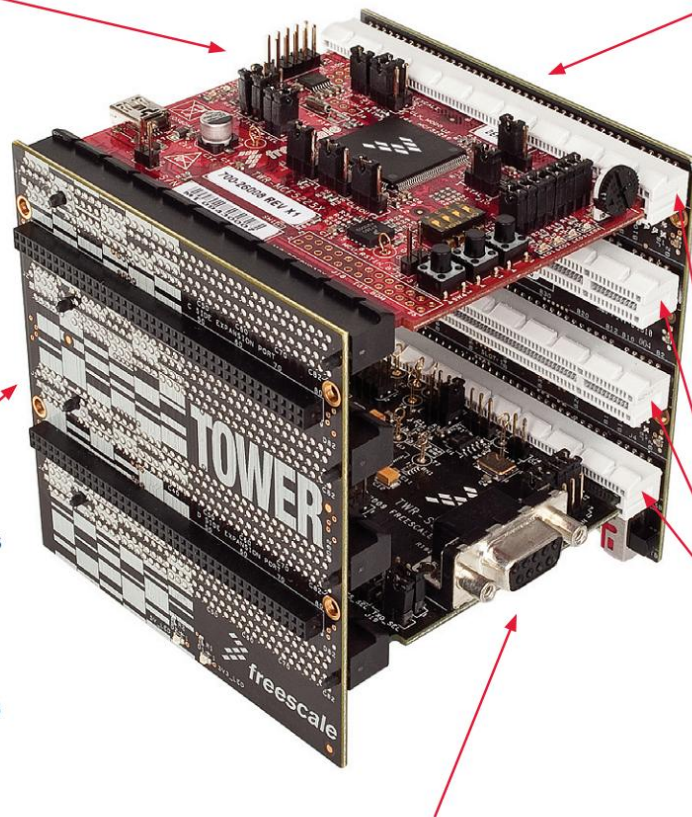

Figure 1. Freescale Tower System Overview
The TWR-S08UNIV is available as a stand-alone product or as a kit (TWR-S08UNIV-DEMO) that includes all six original (R)S08 daughter cards. The TWR-S08UNIV can also be combined with other Freescale Tower peripheral modules to create development platforms for a wide variety of applications. Figure 1 provides an overview of the Freescale Tower System.